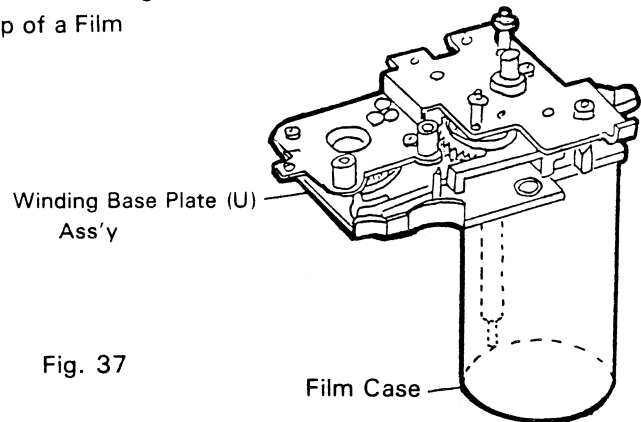

Fig. 37
- (1) As shown in Fig. 37, place the Winding Base Plate (U) Ass'y on top of a Film Case and disassembly.